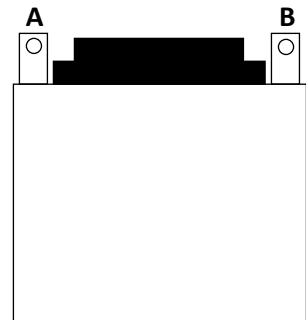

Fig 9
1. The motor is fixed to the wall using the L brackets supplied. Screw the motor to the L brackets and attach through A & B points to the wall (Fig 9).